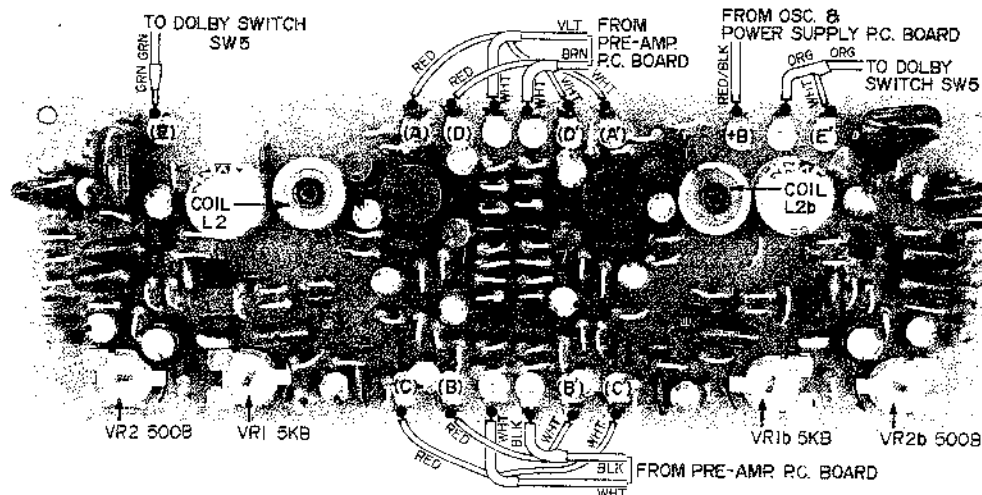

Fig. 30 DOLBY AMP. P.C. BOARD CG-5202 (Face Side)
- b) Turn Dolby Amp. P.C. Board Dolby Amp. Gain Adjustment Semi-fixed Resistors VR2 500 B (left ch.) VR2b 500 B (right ch.) and FET Gate Bias Adjustment Semi-fixed Resistors VR1 5 kB (left ch.) VR1b 5 kB (right ch.) as far as they will go in the direction of the arrows shown in Fig. 30.
- f) At this condition, further adjust the Attenuator so that the line output level at Point (D) shown in Fig. 30 is -28.5 dB. At this time, confirm that the level at Point (B) shown in Fig. 30 is -28.5 ± 0.5 dB.
- g) Turn Dolby Switch SW5 to ON position. At this time, adjust Dolby Amp. Gain Adjustment Semi-fixed Resistors VR2 500 B (left ch.) VR3b 500 B (right ch.) until the voltage at Point (B) shown in Fig. 30 is increased by 10 dB.
- h) Disconnect ground from Test Point "TP" (FET Gate). At this time, adjust FET Gate Bias Adjustment Semi-fixed Resistors VRI 5 kB (left ch.) VRIb 5 kB (right ch.) so that the voltage at Point (B) shown in Fig. 30 is reduced by 2 dB.